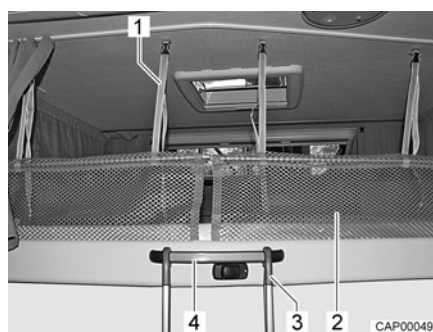

Fig. 54 Access ladder and safety net
- Hook the access ladder (Fig. 54,3) to the pull-down bed by attaching the two hooks to the curved handle (Fig. 54,4).
The safety nets (Fig. 54,2) with the retaining straps are stored under the mattress. Only use the safety nets if persons are already in the pull-down bed.
- Fasten the retaining straps (Fig. 54,1) to the holders on the ceiling.